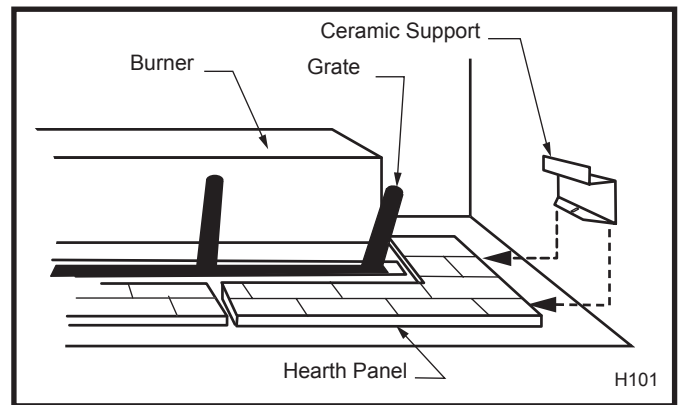

Fig. 73 Ceramic support.
2. Insert supports under ceramic hearth panels. (Fig. 73)